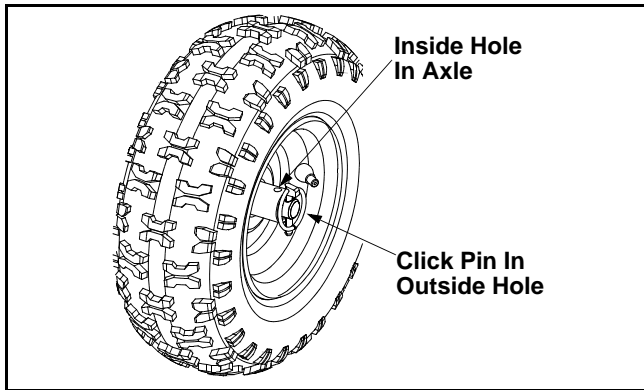

Figure 22
- The wheels may be adjusted for two different methods of operation. Follow the steps below for adjustment. See Figure 22.